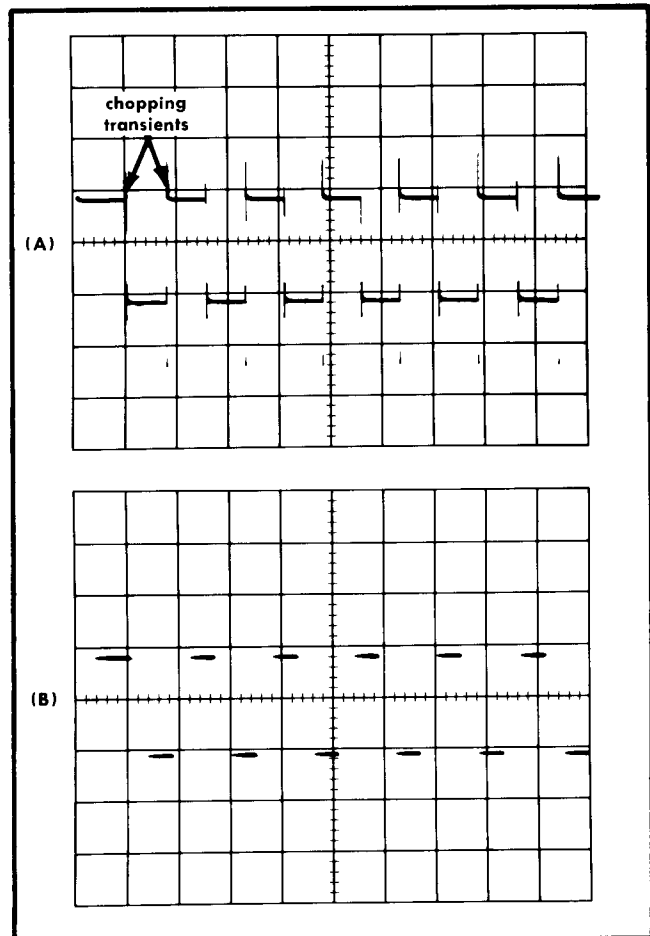

Fig. 6-1. Waveform showing (A) unblanked chopped transients and (B) blanked transients.
e. Check—That time duration of one complete cycle, disregarding the first  $\frac{1}{2}$  cycle, is less than 6 major divisions (see Fig. 6-1).